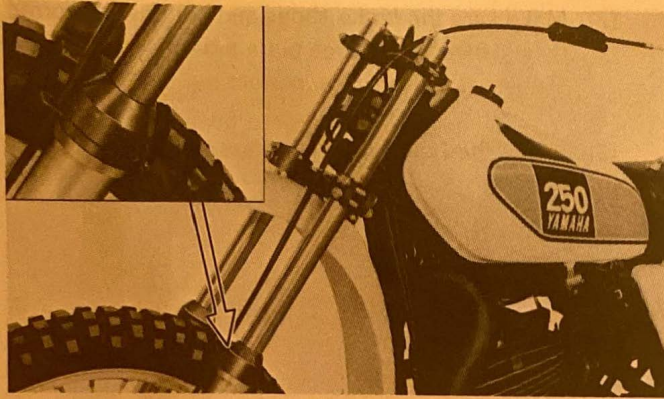

Fig. 19
9. Install the wire holder, which stays on the front brake wire on the left front fork dust seal. Thread the front brake wire through the wire holders. (Fig. 19)